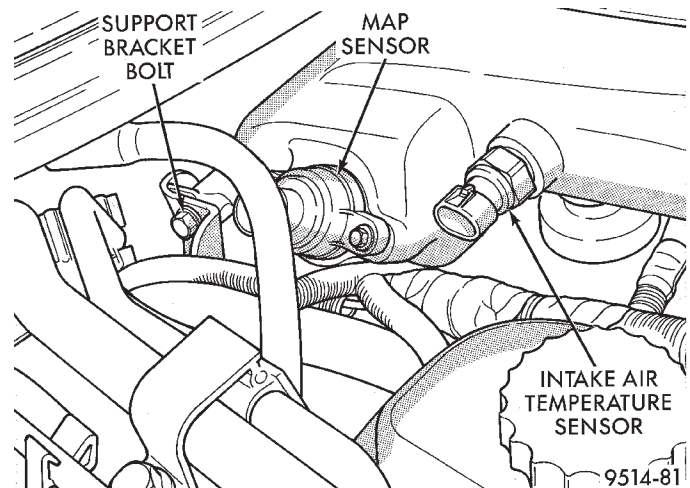

Fig. 30 Intake Manifold Sensors and Left Plenum Support Bolt
(1) Disconnect negative cable from auxiliary jumper terminal.
(2) Unplug connectors from MAP and intake air temperature sensors (Fig. 30).
(3) Remove plenum support bracket bolt located rearward of MAP sensor (Fig. 30).